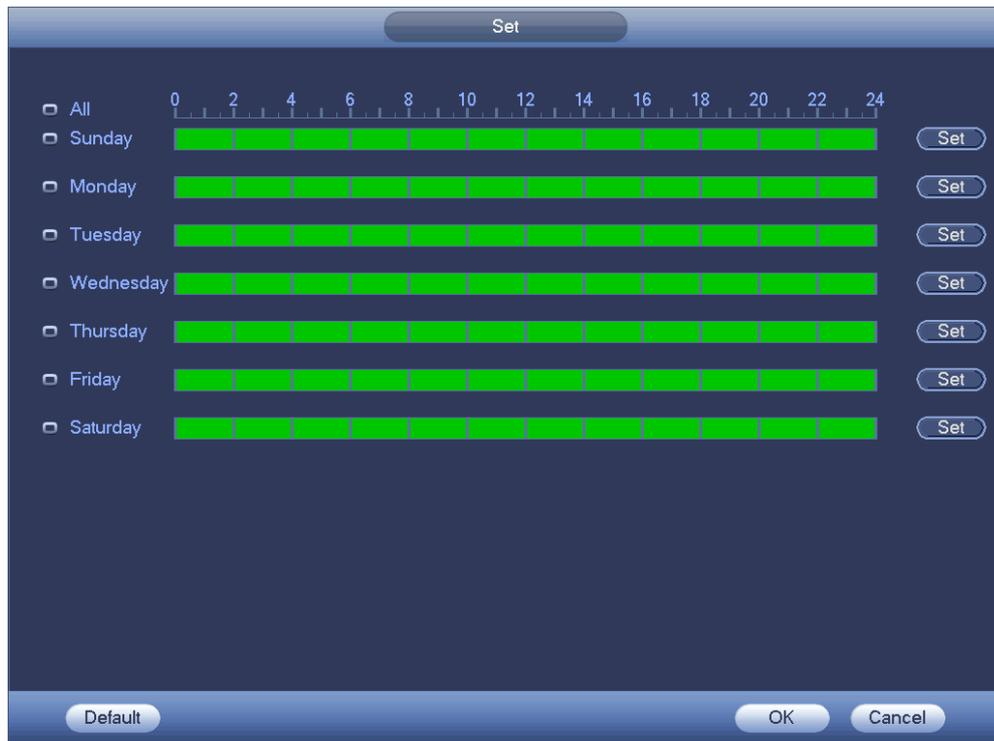

Figure 2-198
Step 4 Click the Set button after the period, you can set valid period to use current account. See Figure 2-198.